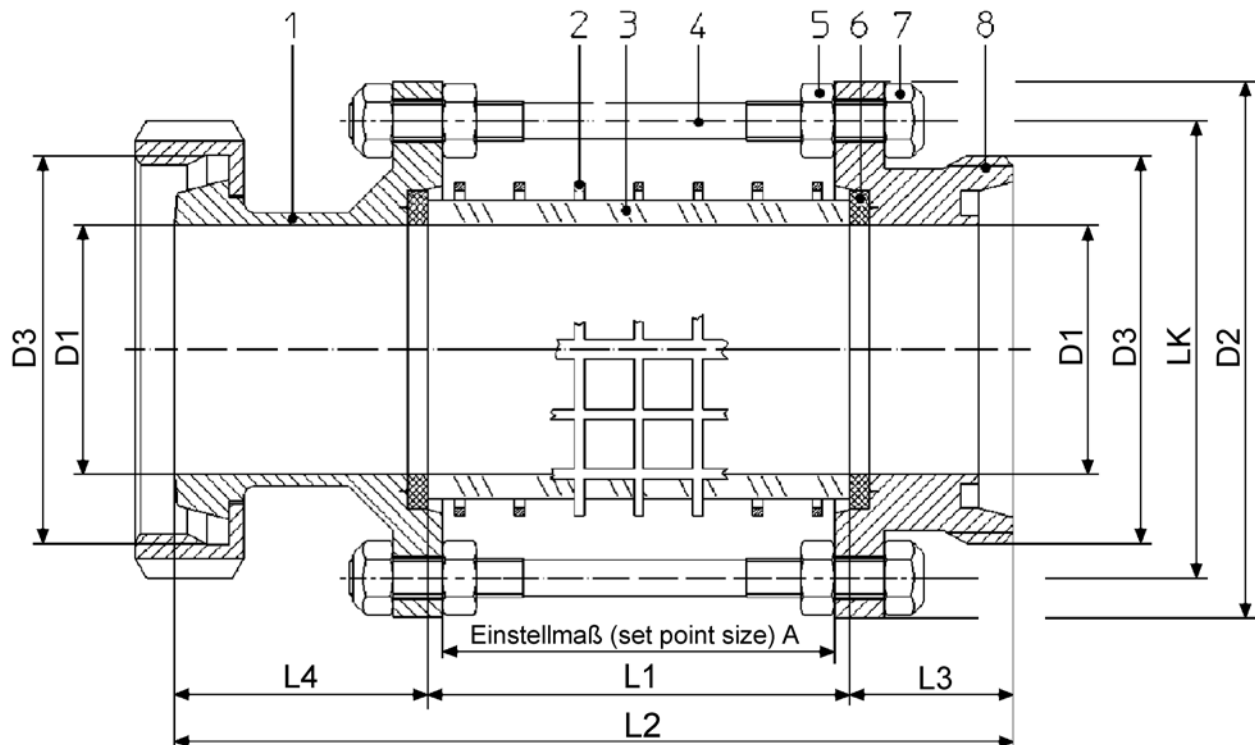

Fig. 1
- Determine size "A" (see fig. 1).
- Unscrew hexagonal nut (7) on *one* side.
- Remove flange (1) seal (6)(2x) and glass cylinder (3) axially.
- Position flange (1) on the thread bolt (4) to the end stop of the hexagonal nut (5) and tighten with hexagonal nut (7).
- Check determined size "A". If required, adjust via the hexagonal nut (5).